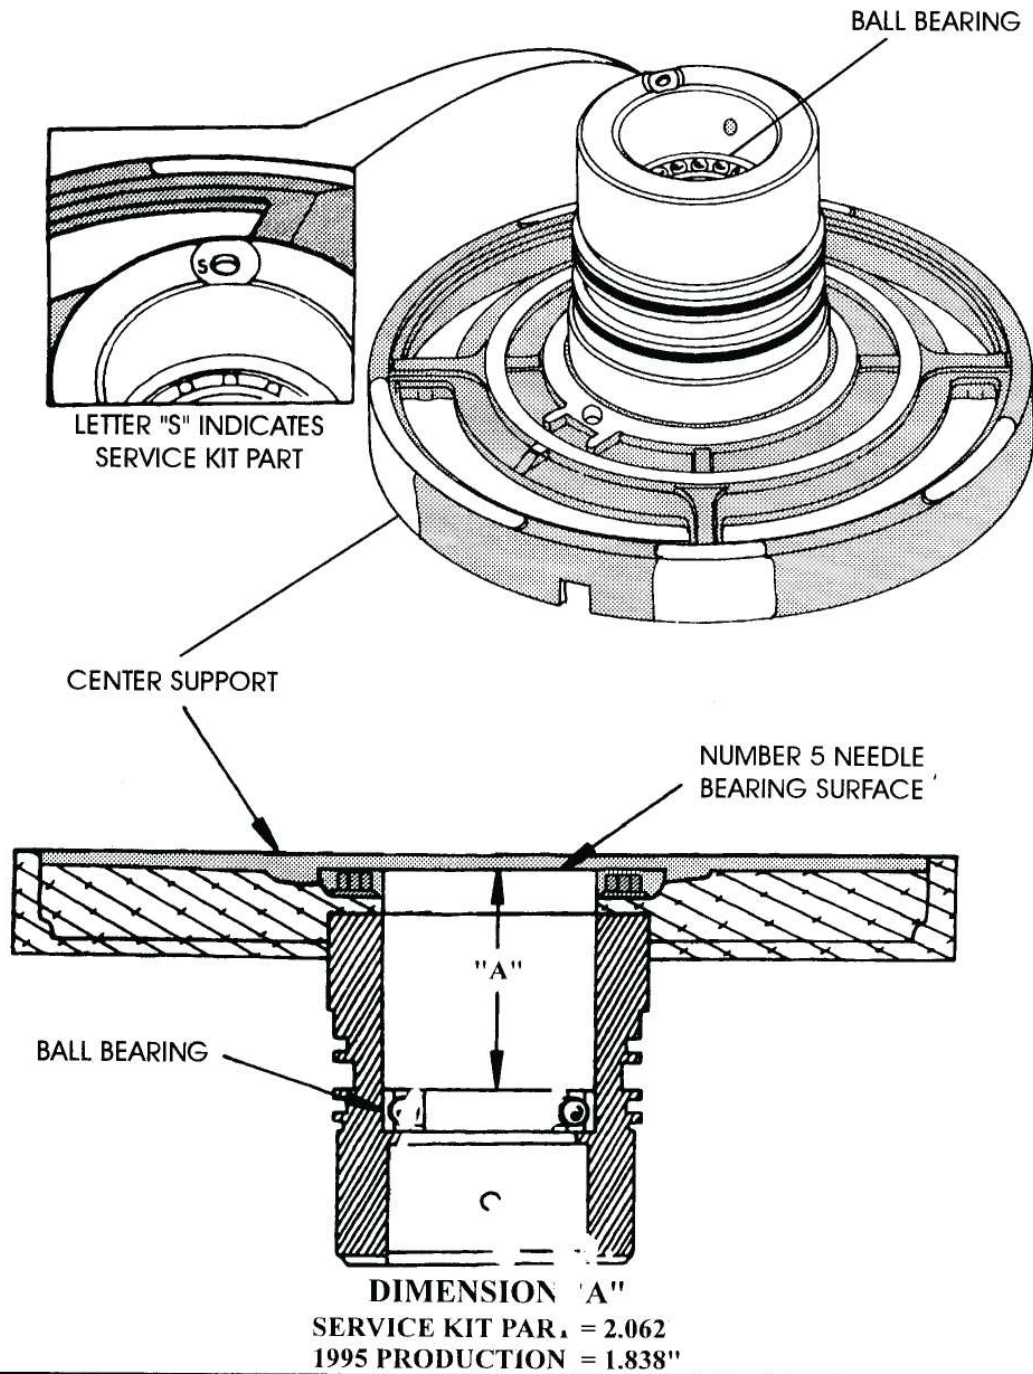

Figure 44
- (1) **CENTER SUPPORT** - Different machining dimensions on the inside bore, to accommodate an added ball bearing that will now support the overdrive center shaft. The new design ball bearing support can be identified as a "Service Part", by the letter "S" stamped on hub, in the location shown in Figure 44. The Service Kit Ball Bearing Center Support has different dimensions than the 1995 production ball bearing center support. Refer to Dimension "A" on the cutaway drawing shown in Figure 44.
- (1) This Service Kit will service all past model E4OD transmissions 1989 thru 1994 model years, when used in it's entirety, and is highly recommended on **all** previous model E4OD units.
- (2) The parts in this Service Kit are different dimensions than 1995 model year production parts and **will not** interchange with 1995 model parts (See Figures 44 and 45).